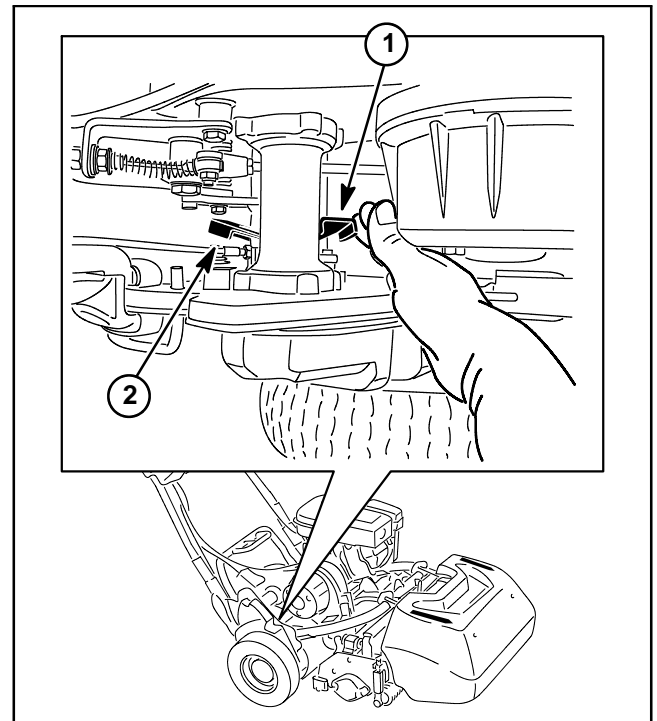

Figure 1
2. Locate the traction engage/disengage lever next to the RH drive housing drum (Fig. 1).